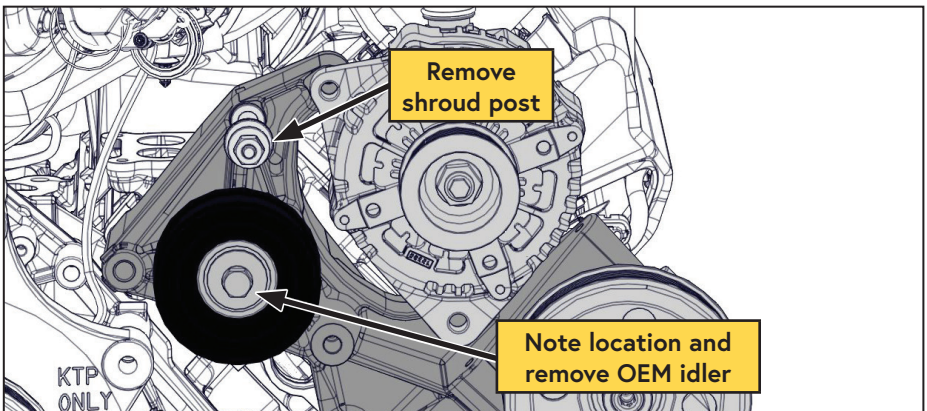

Figure 8 — OEM alternator and power steering bracket
- ☐ Remove the OEM idler from the bracket (Figure 8).
- ☐ Remove the fan shroud stator post from the OEM bracket (Figure 8).
- ☐ Remove the primary alternator, setting the fasteners aside (Figure 8).